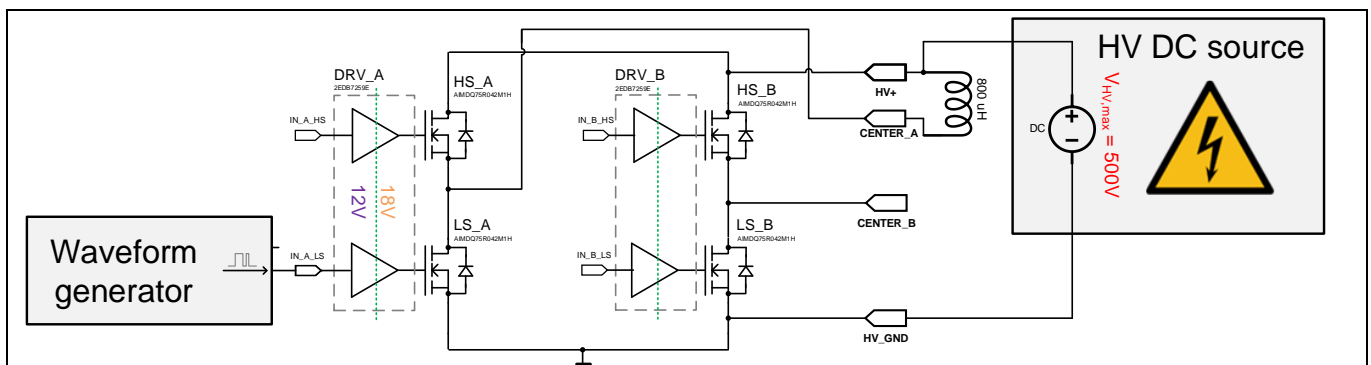
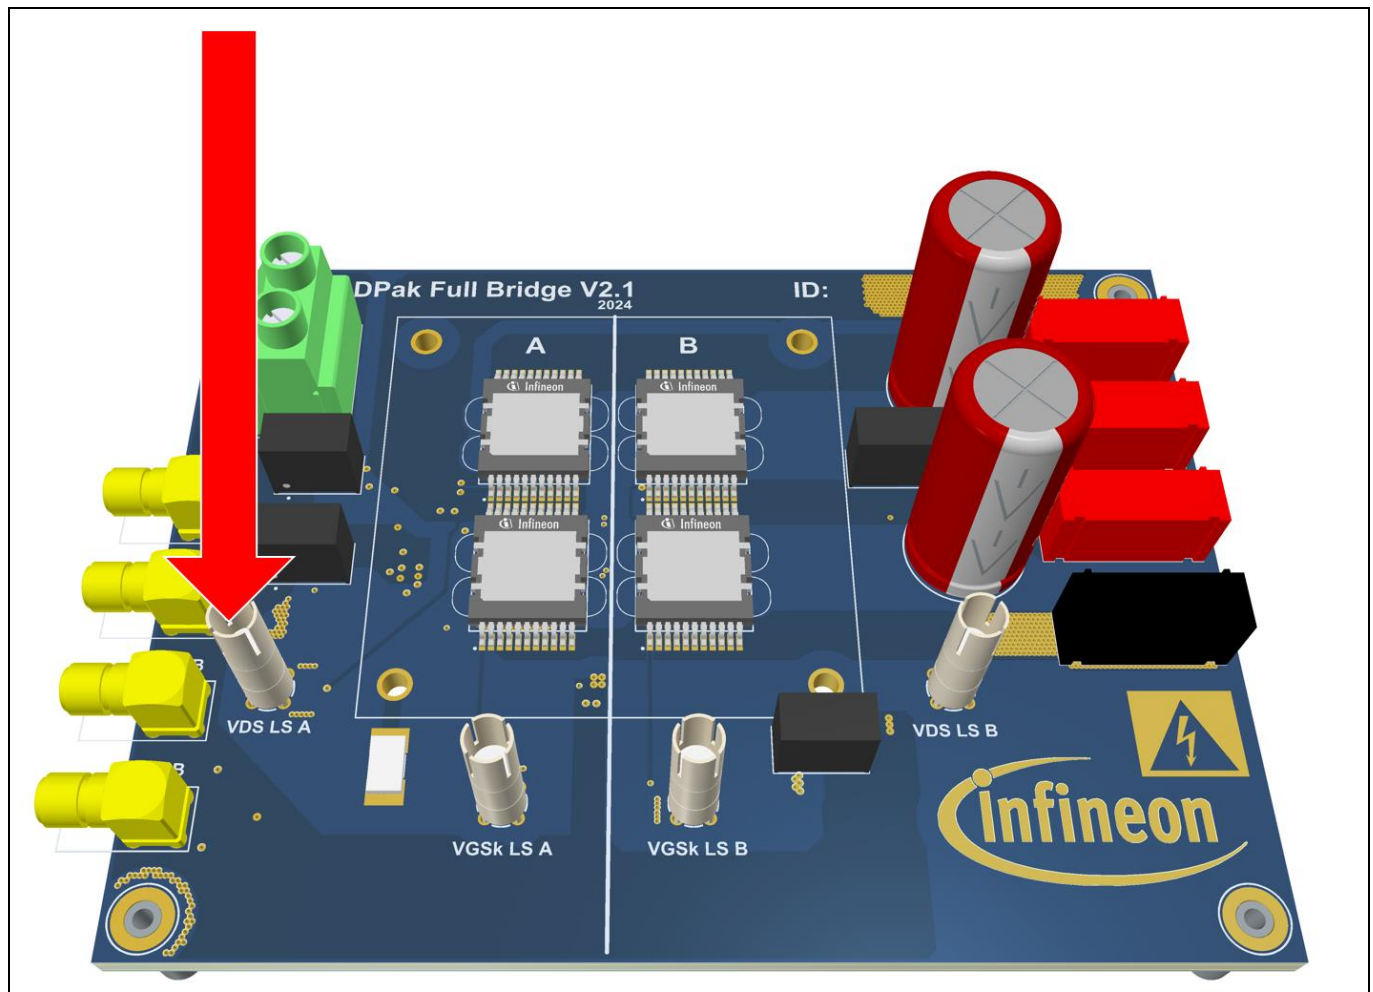
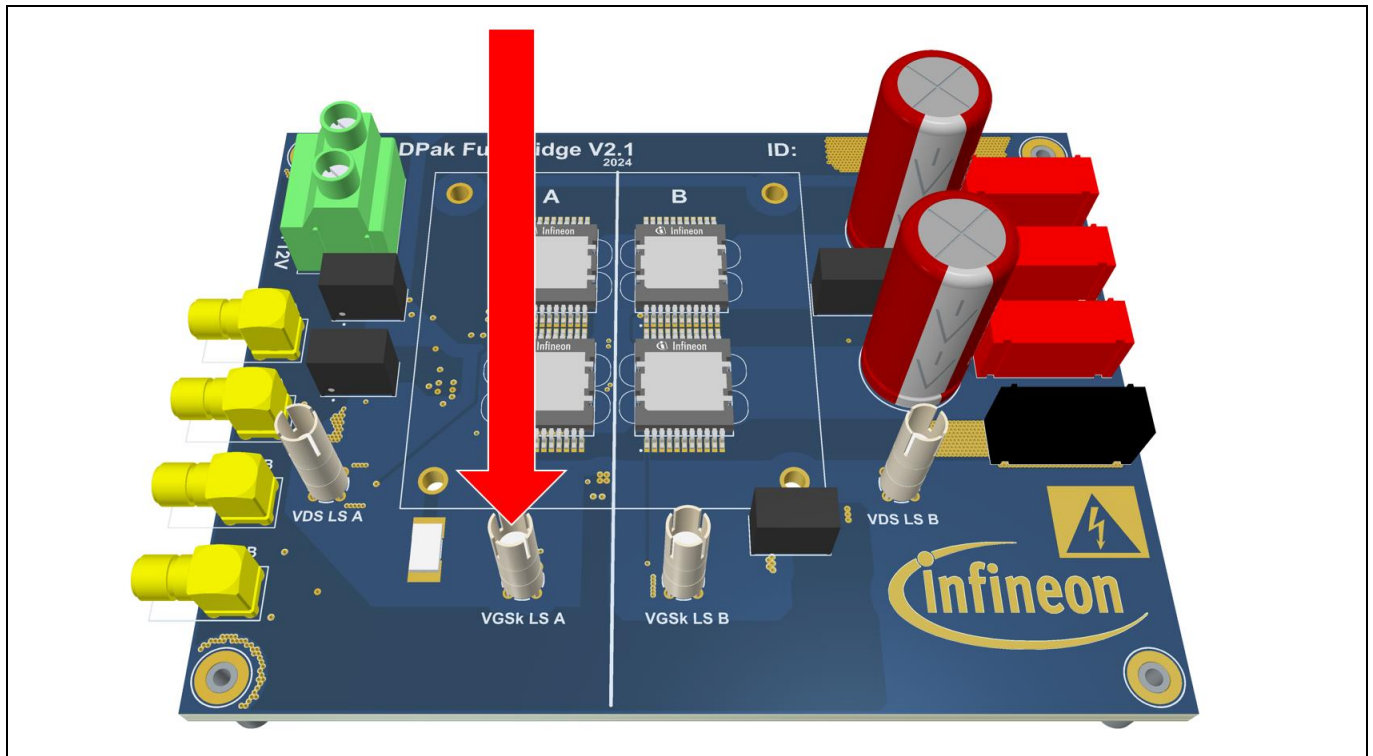

Figure 4 Schematic for double-pulse setup (simplified)
Figure 9 Connection for passive probe to measure the drain-source voltage of MOSFET “LS_A”
Figure 10 Probe holder for measuring the gate-to-Kelvin source voltage (V_{gsk}) of MOSFET “LS_A”
Figure 4 shows one method of how the double-pulse setup can be realized with the eval board. The proposed setup shows the inductor being connected in parallel to the high-side MOSFET of HB "A". The MOSFET is labelled "HS_A", which indicates the high-side transistor in half-bridge "A". Like this, passive probes on the oscilloscope can be used to measure the voltages in reference to the HV_GND voltage directly via the probe holders (see Figure 9 and Figure 10).
4. Connect the passive probe for the drain-to-source voltage measurement as shown in Figure 9
To measure the gate-to-Kelvin source voltage (V_{gsk}), refer to Figure 10.